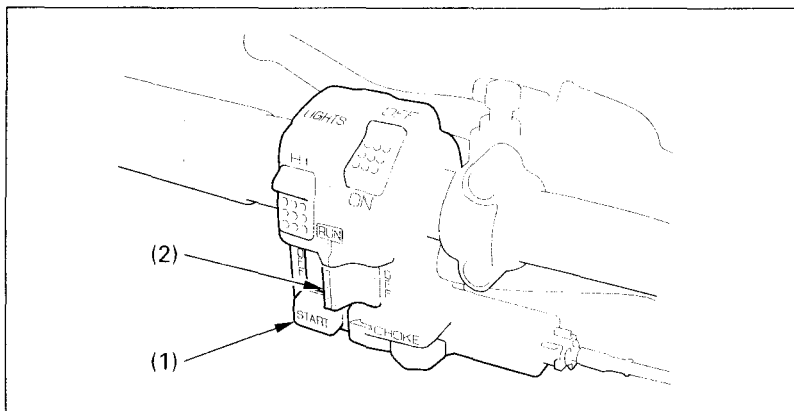

Fig. 2-7 (1) Starter button
The starter button (Fig. 2-7) is below the engine stop switch. To start the engine, press the starter button (1), with the transmission in neutral, the ignition switch ON and the engine stop switch at RUN.